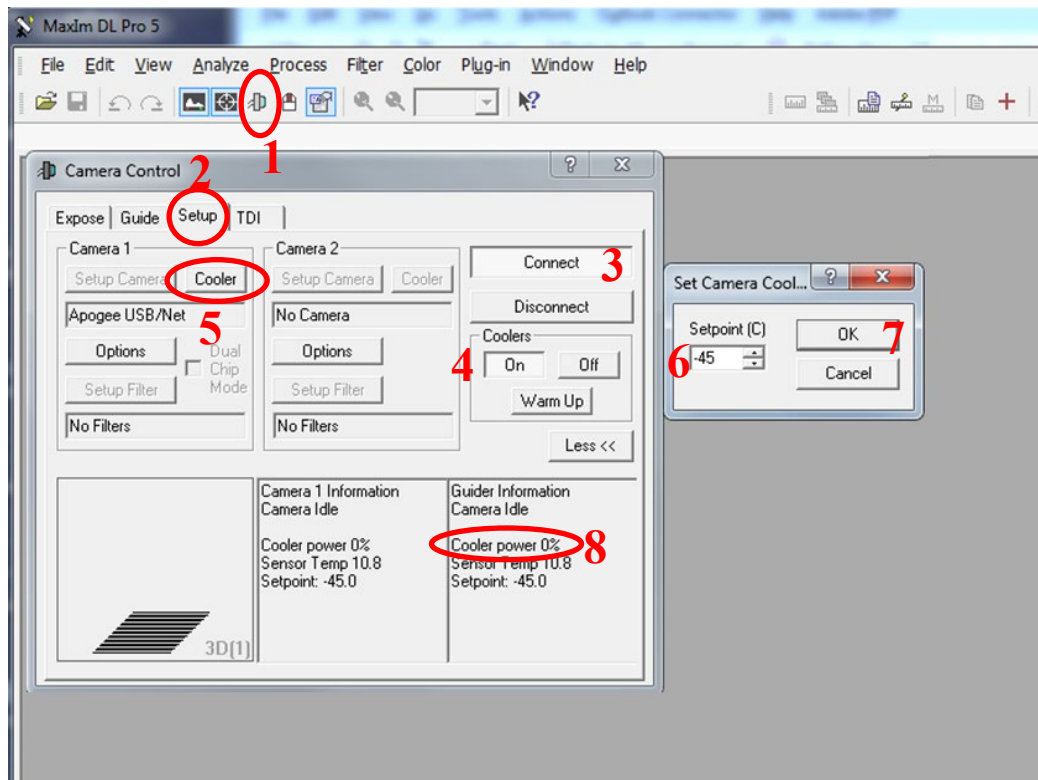

Fig. 5.5. Connecting the CCD to the MaxIm DL software and initializing the cooler.
1. Click on the “Toggle camera control” button (Fig. 5.5 No 1). The “Camera Control” window opens by default on the “Setup” menu (No 2).
Attention: Be advised that this CCD can cool down up to approximately -65°C from the ambient temperature. However, it is recommended for the cooler to use about 75%-80% of its power when reaches the setpoint and the temperature is stabilized. Check the temperature given by the meteo station and set a setpoint approximately $45\text{-}50^{\circ}\text{C}$ lower than the current ambient temperature. Once the set temperature is reached, check the Cooler power (Fig. 5.5 No 8) and increase the temperature setpoint if necessary. The cooling rate is approximately $-2^{\circ}\text{C}/\text{min}$.